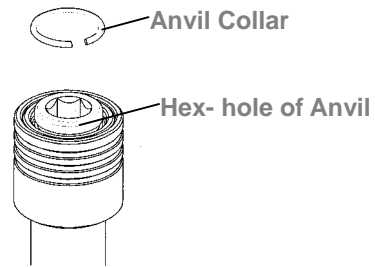

Fig. 242
(8) Anvil Unit Assembly: (for FLEX-30SX, FLEX-40SX, FLEX-50SX, FLEX-60SX and FLEX-70SX)
- (b) Put the anvil collar on the Anvil. (Fig. 242)